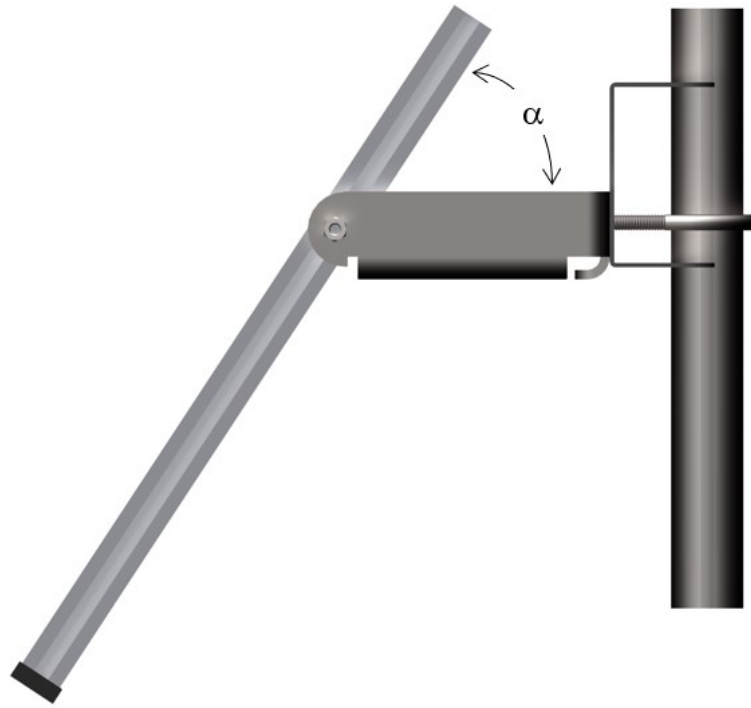

FIGURE 6-41. Side view of solar panel shows tilt angle
2. Mount the solar panel to the pole so it faces south (northern hemisphere). Position it as high off the ground as practical, ensuring it cannot interfere with air flow or sunlight around the sensors. The solar panel should be oriented to receive maximum insolation over the course of the year. Suggested tilt angles referenced to the horizontal plane (FIGURE 6-41 (p. 54)) are listed in Table 6-1 (p. 54).
5. Secure the wire to the mast using wire ties (FIGURE 6-41 (p. 54)).